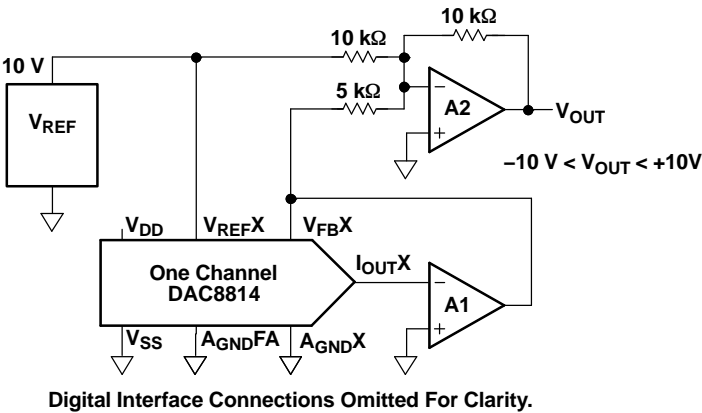

Figure 59. Four-Quadrant Multiplying Application Circuit
Some applications require full 4-quadrant multiplying capabilities or bipolar output swing, as shown in Figure 59. An additional external op amp A2 is added as a summing amp. In this circuit the first and second amps (A1 and A2) provide a gain of 2X that widens the output span to 20 V. A 4-quadrant multiplying circuit is implemented by using a 10-V offset of the reference voltage to bias A2. According to the following circuit transfer equation (Equation 2), input data (D) from code 0 to full scale produces output voltages of $V_{OUT} = -10\text{ V}$ to $V_{OUT} = 10\text{ V}$.